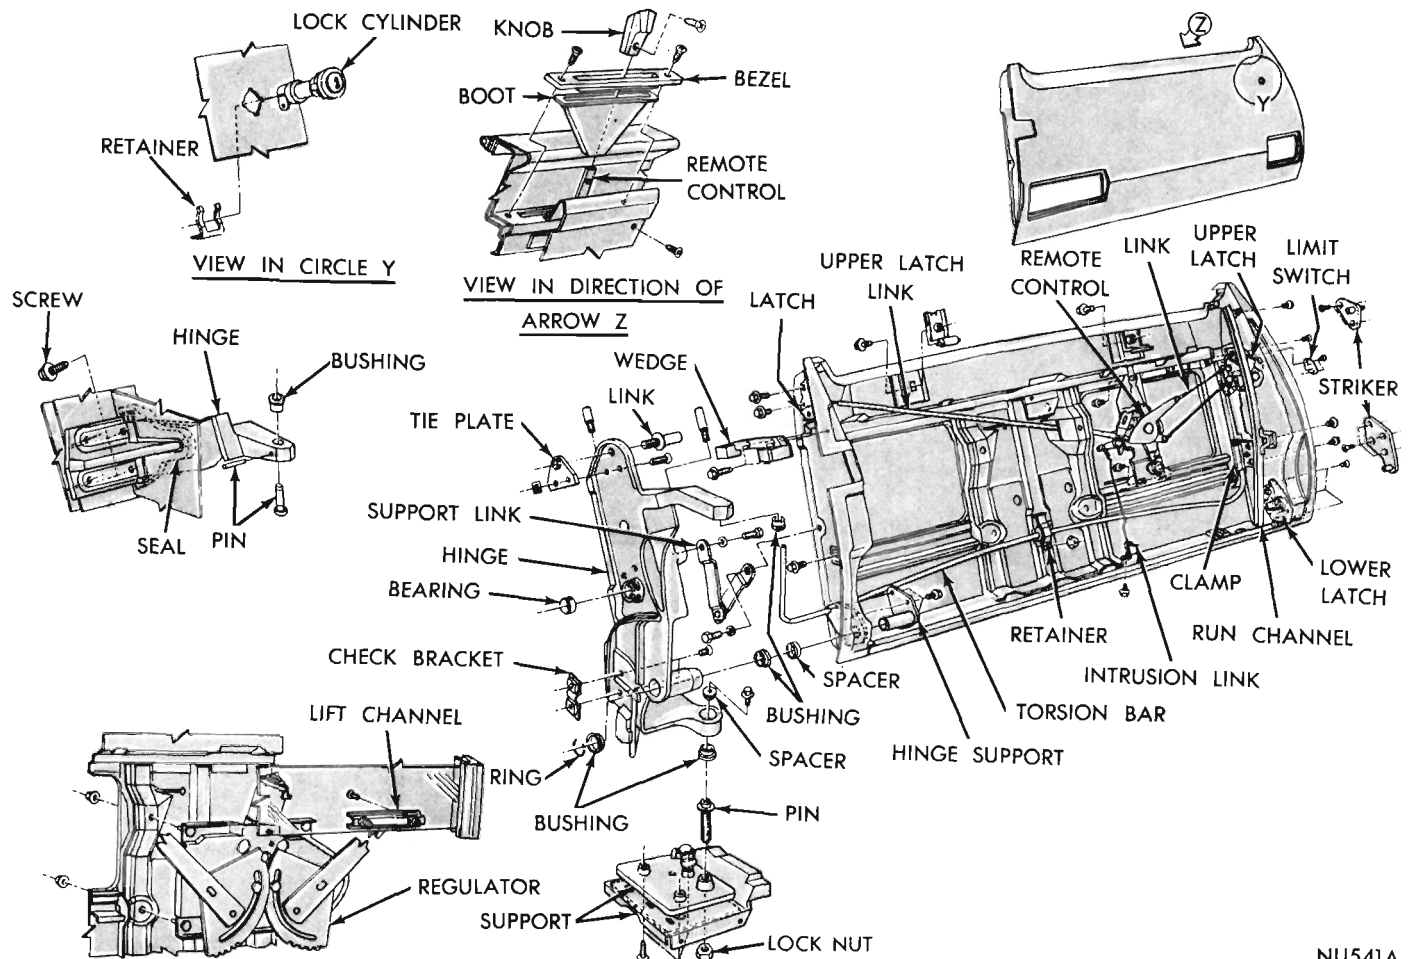

Fig. 23 - Tail Gate Assembly
ALIGNMENT (Fig. 23)
- (1) Remove check arm and torsion bar guide from pillar guide plates.
- (2) Support tail gate on jacks or stands.
- (3) Loosen hinge pivot pin locking screws (Fig. 23).
- (4) Use a pencil and outline hinge plate position on pillar post for future assembly.
- (5) Remove hinge plate attaching bolts from pillar post.
- (6) Slide hinge plate and torsion bar in through guide toward center of tail gate.
- (7) Lower tail gate down and out of body opening.
To replace the lock assembly (Fig. 23), remove trim panel glass and glass runs. The lock assembly is retained on tail gate by screws accessible at end of tail gate.
The tail gate lock cylinder assembly is retained on the outer panel with a horseshoe type retainer (Fig. 23).